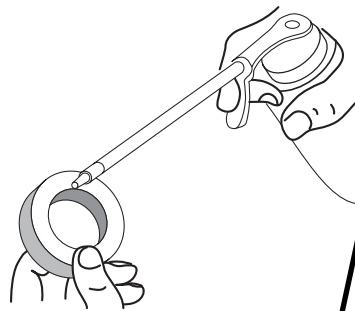

Fig. 35
4. Apply enough clean SAE 30 oil to lightly coat the filter (Fig. 35).
6. Replace the air filter inside the air filter/muffler cover (Fig. 35).